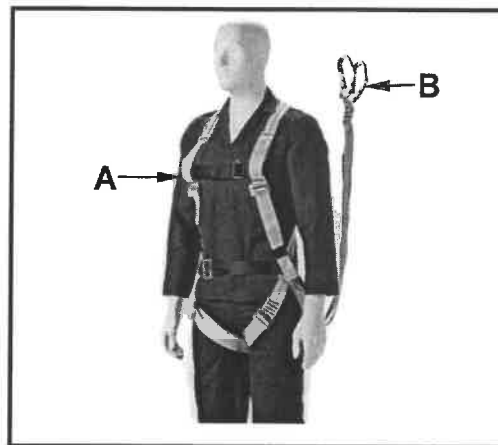

FIGURE 3.1
3.1 FIGURE 3.1 below shows safety equipment.